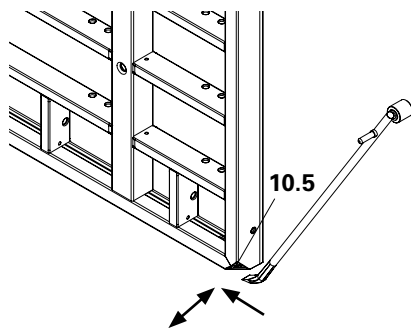

Fig. A3.03a
- 10.5 Levering corner (Fig. A3.03a)